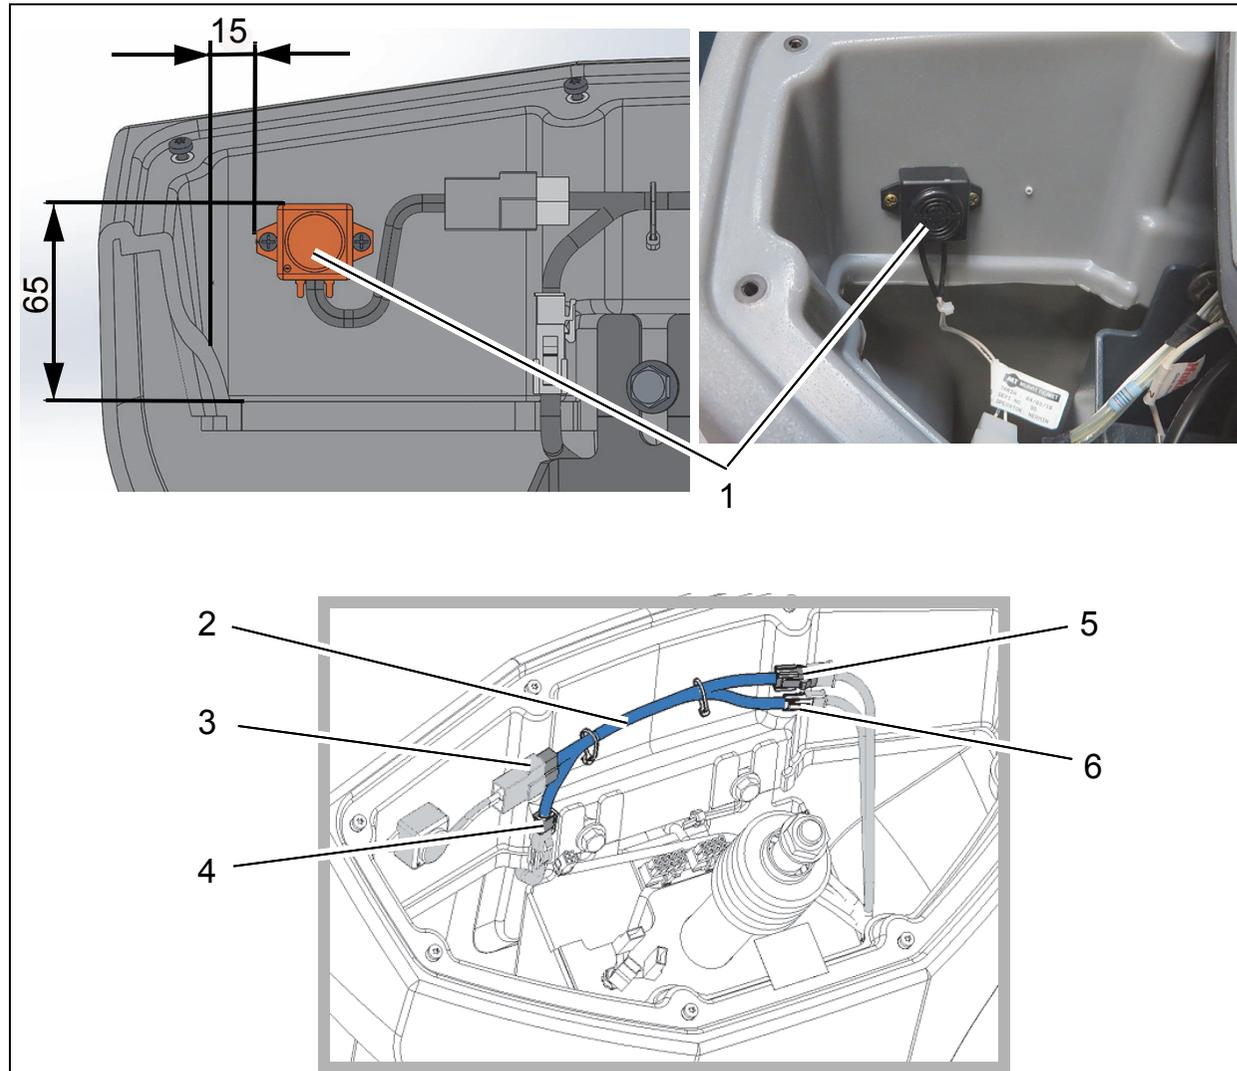

Fig.2
2. Fix the signal transmitter (Fig. 2/1) to the inside of the steering column with the two self-tapping screws.
Place the cable harness W67 (Fig. 2/2) in the steering tower as shown.
- signal transmitter P02 (Fig. 2/3)
- LED lamp E03 (Fig. 2/4)
- cable harness W3 X25 (Fig. 2/5)
- cable harness W3 X24 (Fig. 2/6)